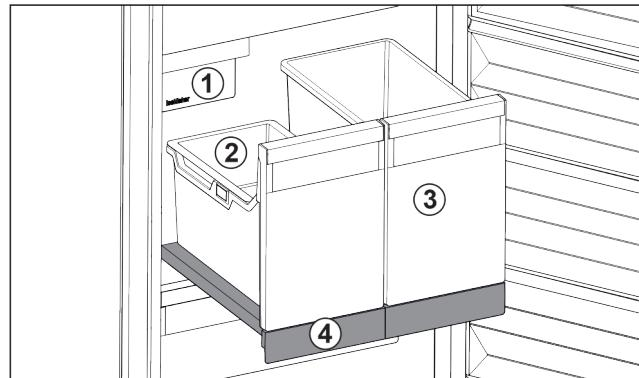

Fig. 122 Pull-out board with IceTower
(1) IceMaker	(3) Container for pizza or alcoholic beverages, for example
(2) Hang-on tray for ice cubes	(4) Pull-out board
There are two high (IceTower) containers on the pull-out board. Ice cubes from the IceMaker are collected and stored in the Fig. 122 (2) container. The container Fig. 122 (3) is suitable for storing tall foodstuffs or beverages such as pizzas or alcoholic drinks.